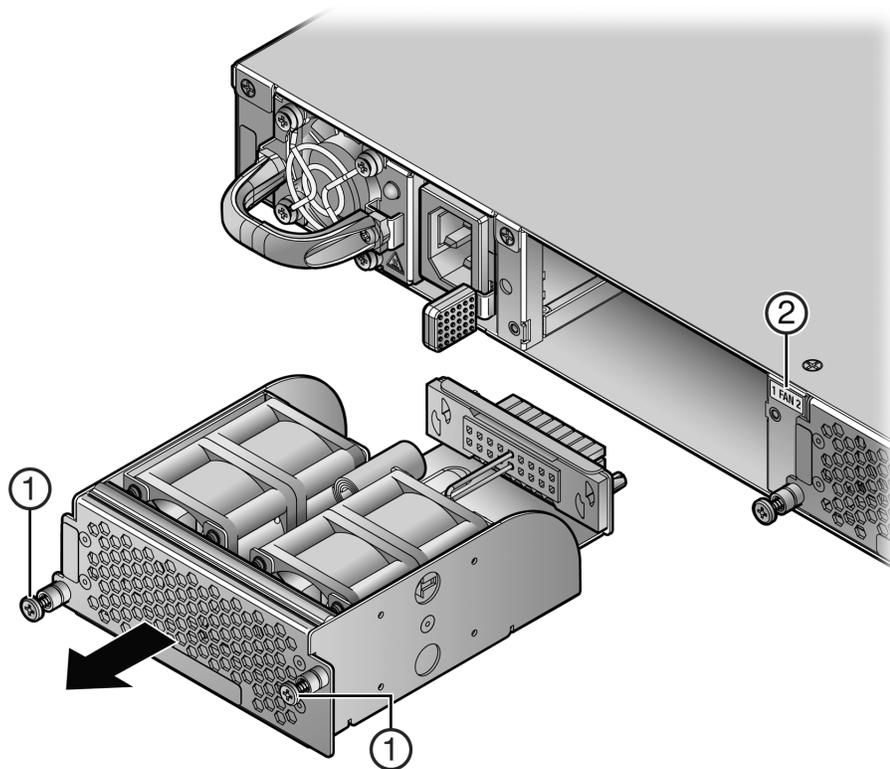

Figure 16: Removing the Fan Module
- 1 Determine the location of the failed module using the label shown in Figure 16: Removing the Fan Module on page 42.
- 2 Unscrew the two captive screws of the failed fan module as shown in Figure 16: Removing the Fan Module on page 42.